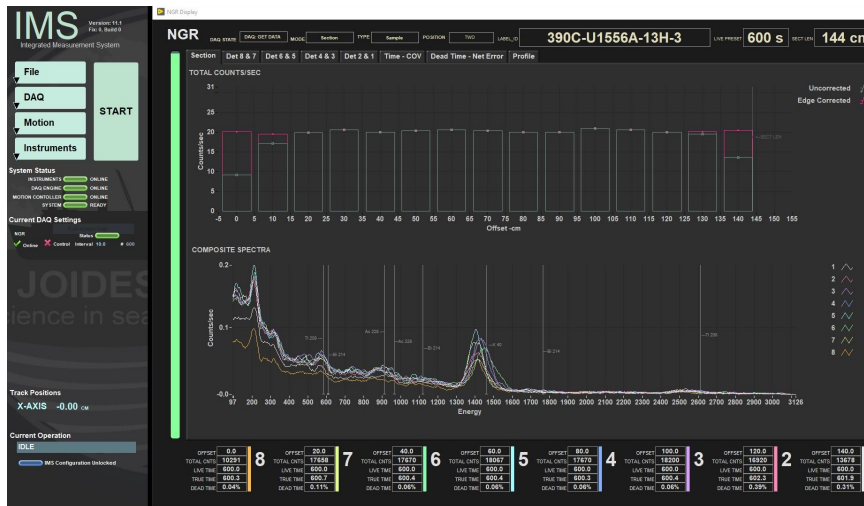

Figure 4. NGR real-time graphs.
6. The boat moves to the first measurement position, and begins measurements. Once finished, if selected, the boat moves to the second position, and begins measurements. The typical measurement rate is 300 seconds per position. Real time graphs are displayed during acquisition (Figure 4). The graphs display the counts for each detector at each position, also the full spectra for each detector.